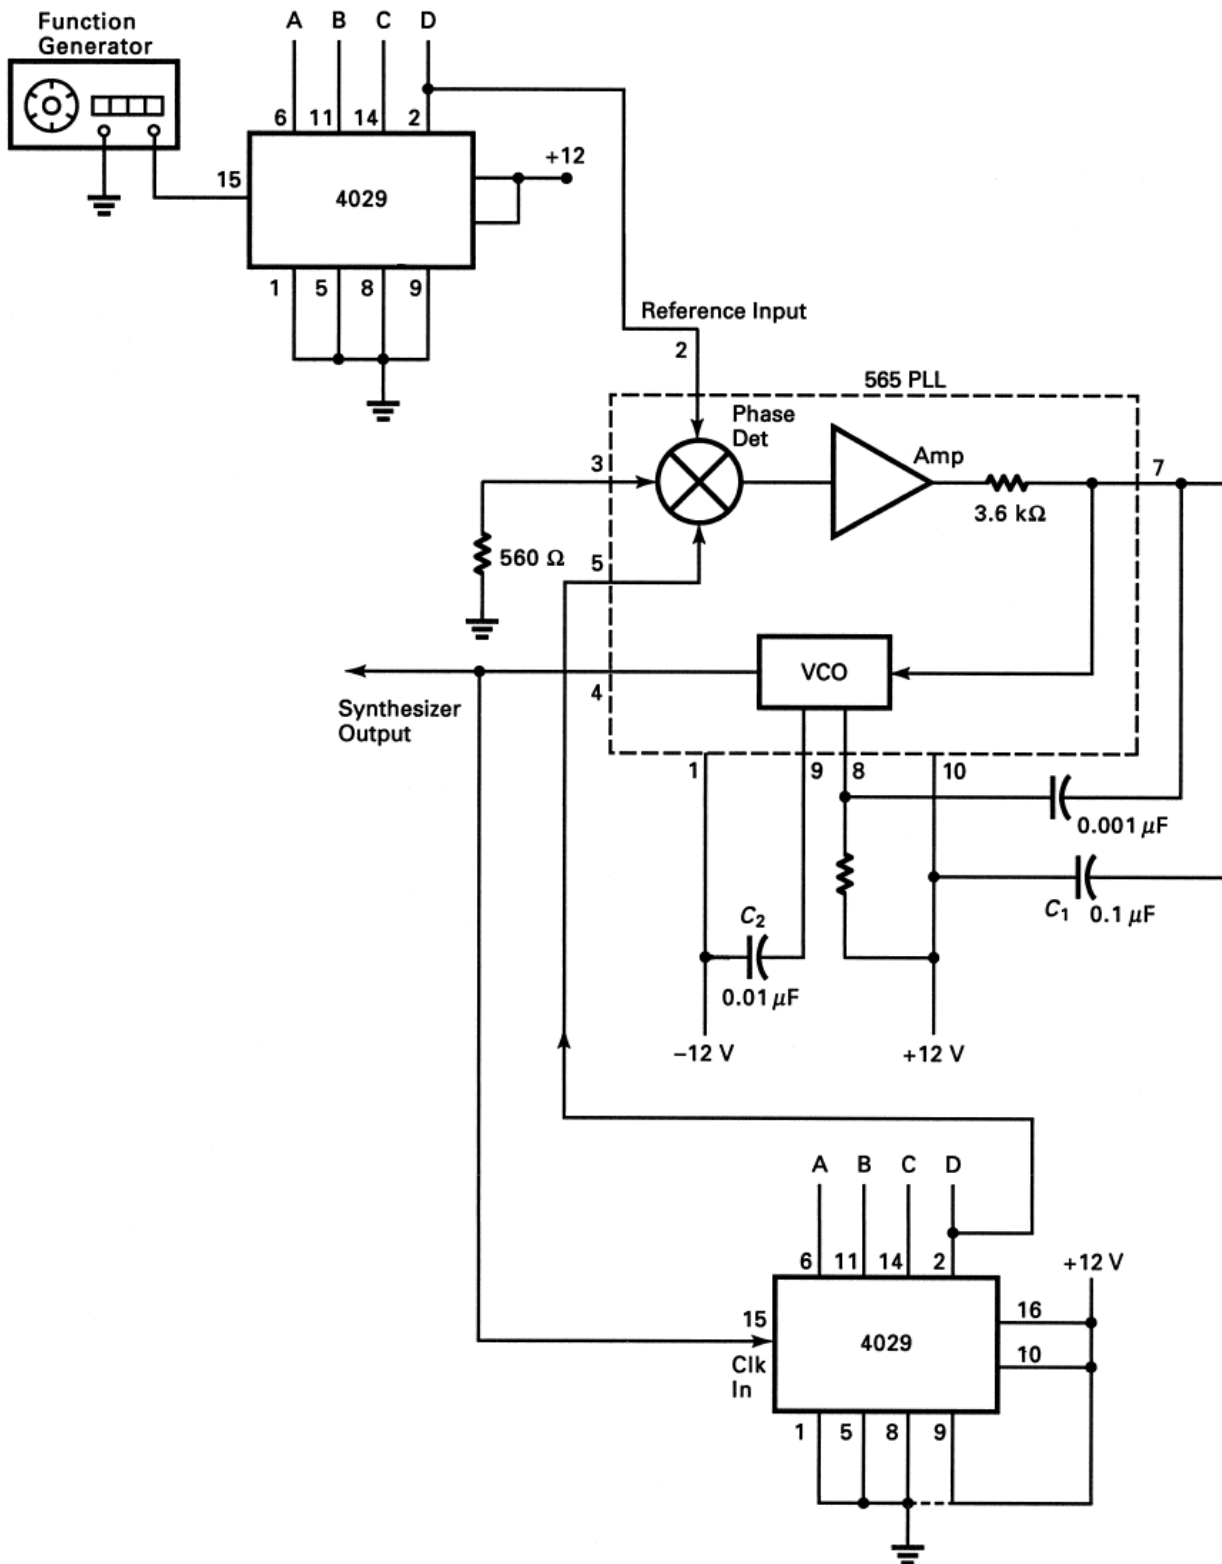

Fig. 9-5 Synthesizer with dividers at the reference input and in the feedback loop.
11. Rewire the circuit so that it is as shown in Fig. 9-5. One 4029 is used in the PLL feedback loop, and the other is used between the function generator and the reference input to pin 2 on the 565. Predict the VCO output frequency if the function generator is set to 10 kHz. Record your prediction.